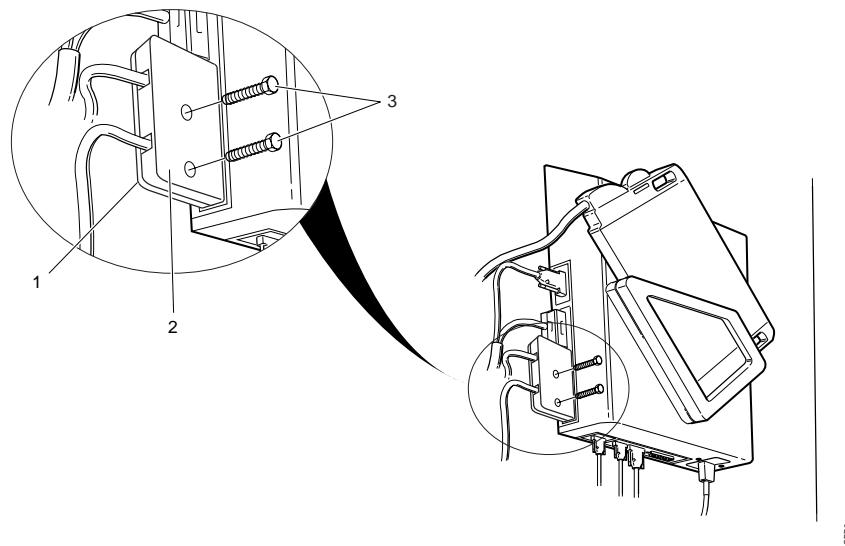

Fig. 13 Mounting the touch protection
- Place the plastic plate (1/Fig. 13) behind the connectors X203 and X204.
- Place the plastic cover (2/Fig. 13) on the other side of the connectors.
- Fasten the plastic screws (3/Fig. 13).